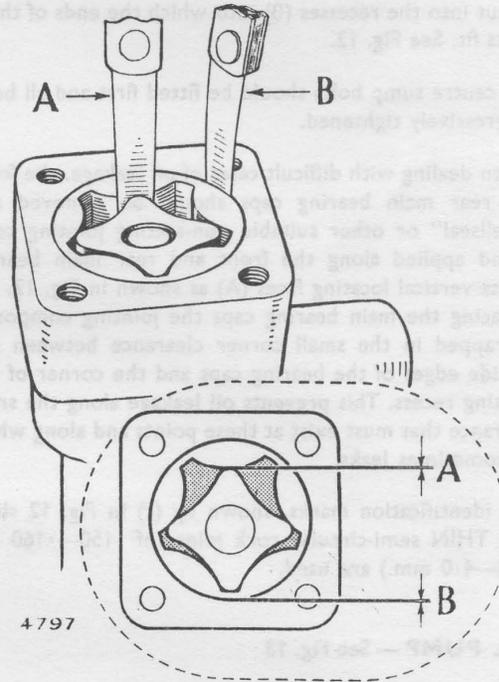

Fig. 16. Checking oil pump rotor tip and outer rotor clearance.
2. Side clearance between the top of the lobes on the inner and outer rotor as shown on Fig. 16.